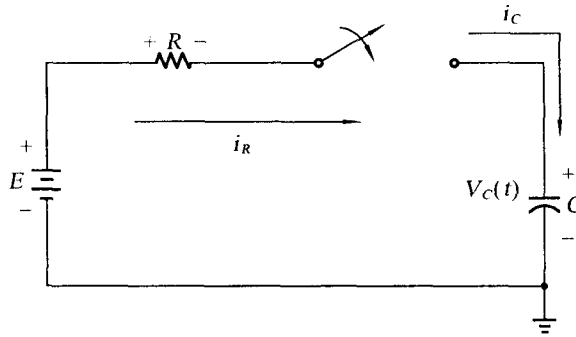

Figure 1.4 Charging a capacitor
**Charging a Capacitor** A capacitor charges when it is connected to a dc source. See Figure 1.4, when the switch is closed, electrons are drawn from one plate and deposited on the other; resulting in net positive and negative charges on plates. The transfer of electrons is very rapid at first. It slows down as the  $V_C$  approaches  $E$ . It ceases when  $V_C = E$ , where the net charge of  $Q = CV_C$  stays on plates.